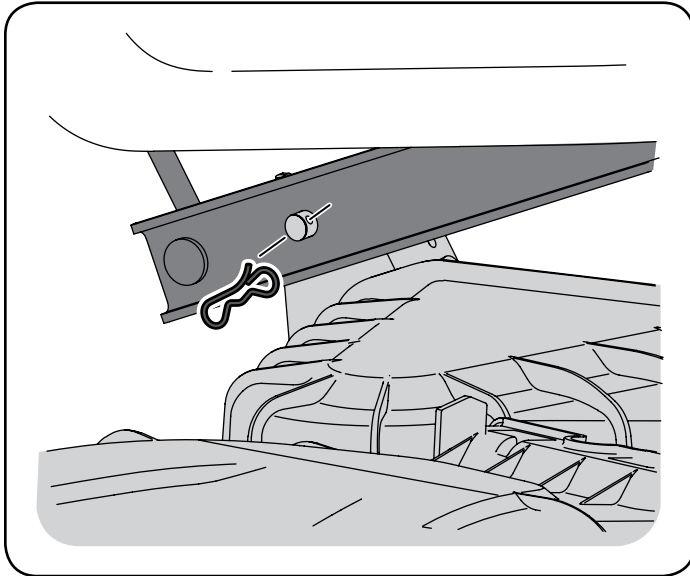

Figure 27
- Looking at the cutting deck from the left side of the tractor, locate the bow-tie pin on the rear left side of the deck. See Figure 27.
- Remove the bow pin and slide the deck pin out of the deck lift arm. See Figure 27.